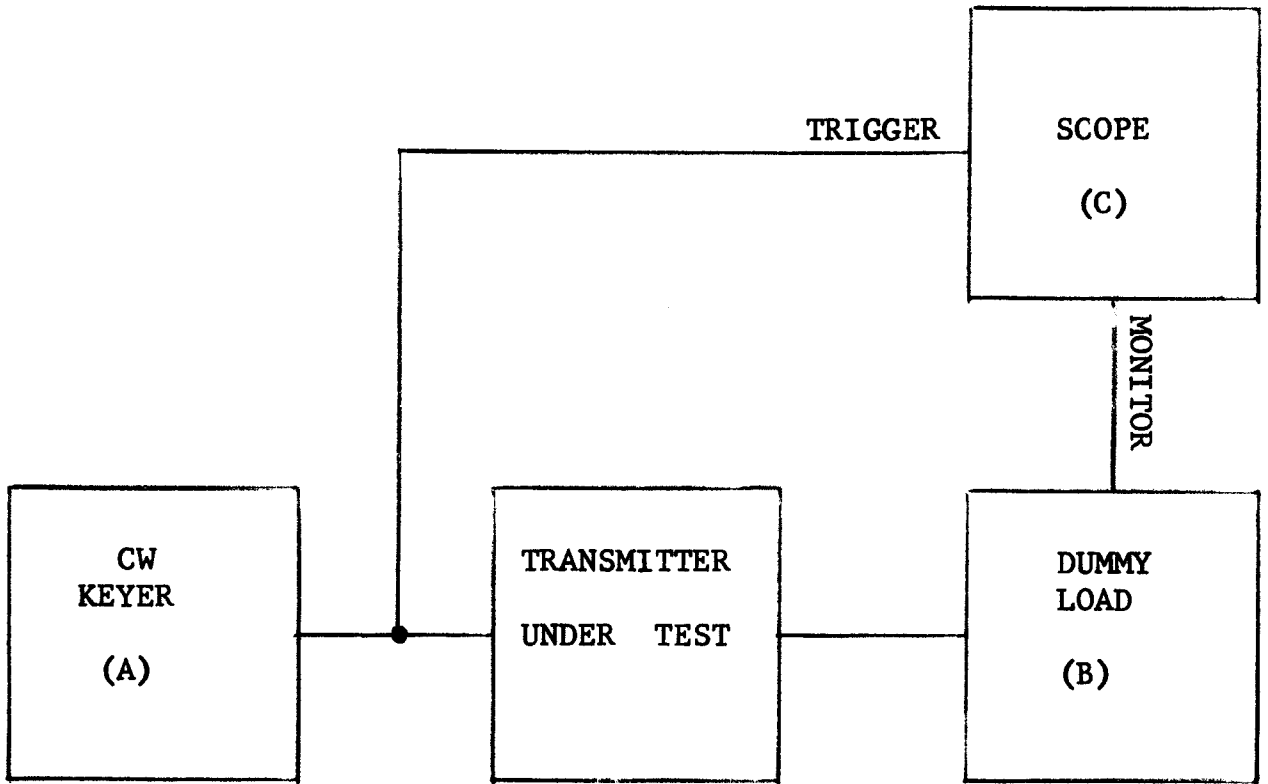

FIGURE 2.7
- a. Connect equipment as shown in Figure 2.7.